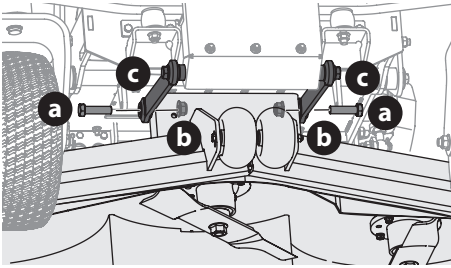

Figure 57
- Remove the hex screws (a) and flange lock nuts (b) securing the front deck control rods (c) to the deck (Figure 57).